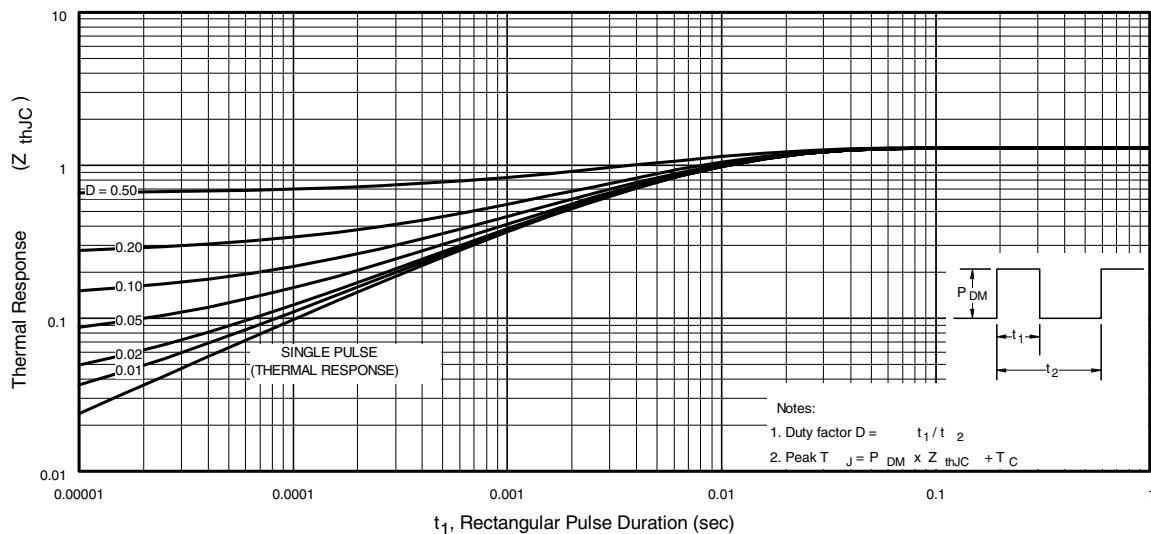
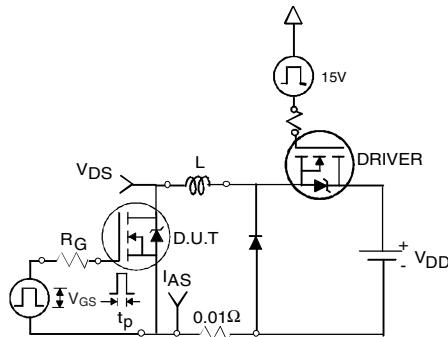

Fig 11. Maximum Effective Transient Thermal Impedance, Junction-to-Case
Fig 12a. Unclamped Inductive Test Circuit
3. Equation below based on circuit and waveforms shown in Figures 12a, 12b.
- $Z_{thJC}(D, t_{av})$ = Transient thermal resistance, see figure 11)
- ① Repetitive rating; pulse width limited by max. junction temperature. (See fig. 11).
- ② Limited by $T_{J\max}$, starting $T_J = 25^\circ C$, $L = 0.45mH$, $R_G = 25\Omega$, $I_{AS} = 30A$, $V_{GS} = 10V$. Part not recommended for use above this value.
- ③ $I_{SD} \leq 30A$, $di/dt \leq 280A/\mu s$, $V_{DD} \leq V_{(BR)DSS}$, $T_J \leq 175^\circ C$.
- ④ Pulse width $\leq 1.0ms$; duty cycle $\leq 2\%$.
- ⑤ $C_{oss\ eff}$ is a fixed capacitance that gives the same charging time as C_{oss} while V_{DS} is rising from 0 to 80% V_{DSS} .
- ⑥ Limited by $T_{J\max}$, see Fig.12a, 12b, 15, 16 for typical repetitive avalanche performance.
- ⑦ This value determined from sample failure population. 100% tested to this value in production.
- ⑧ When mounted on 1" square PCB (FR-4 or G-10 Material). For recommended footprint and soldering techniques refer to application note #AN-994.